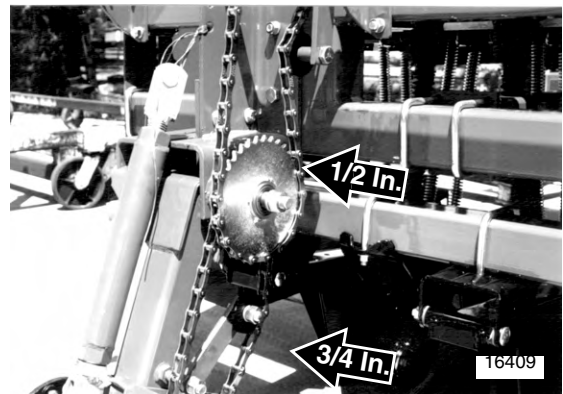

Figure 4
Refer to Figure 4
- Shorten or lengthen chains as necessary and reinstall chains. Be sure chain is installed with the chain connector link retainer towards the centerline and the clip opening (split end) is facing the opposite way of the chain travel. Move the idler arms into chains. See Figure 4 for correct chain slack.